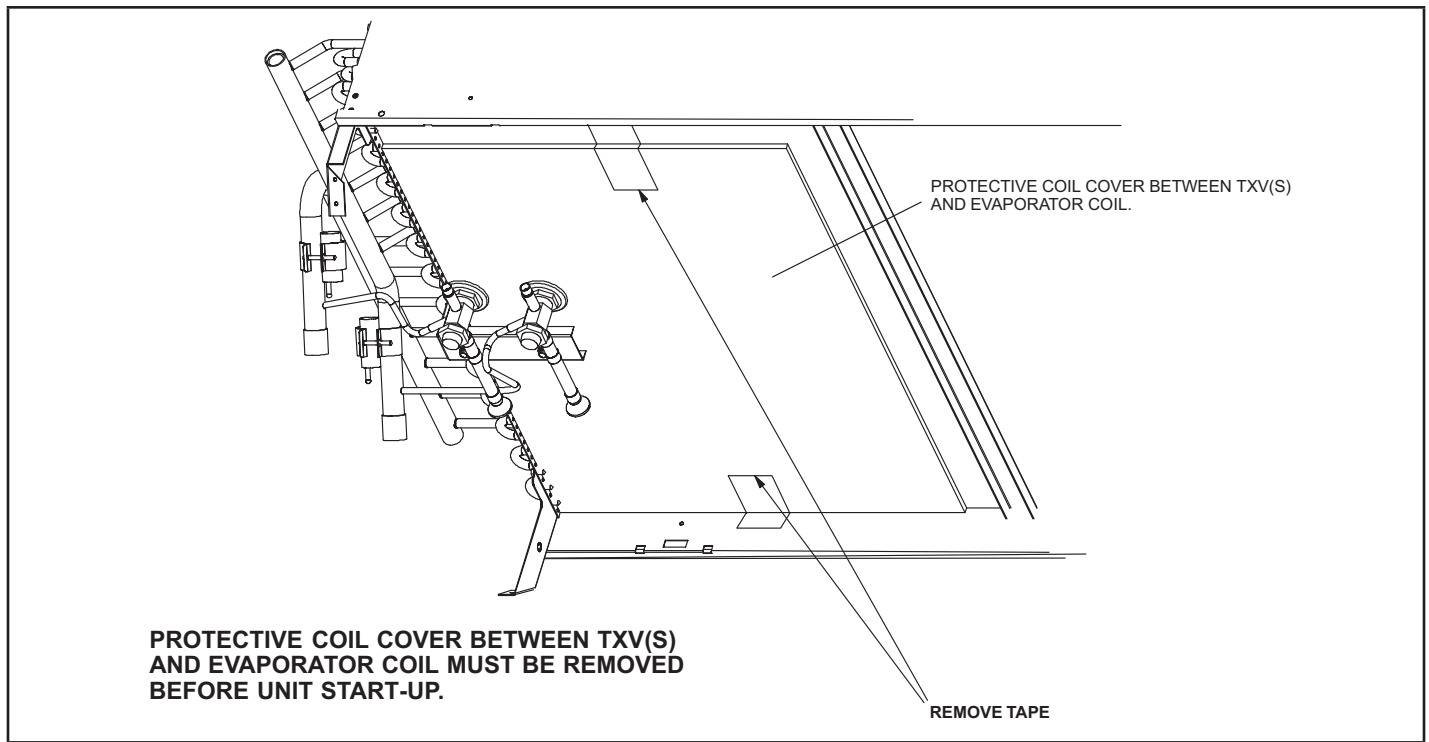

FIGURE 1. Protective Coil Cover Removal
- 5 - Remove protective coil cover between TXVs and evaporator coil as illustrated in Figure 1.